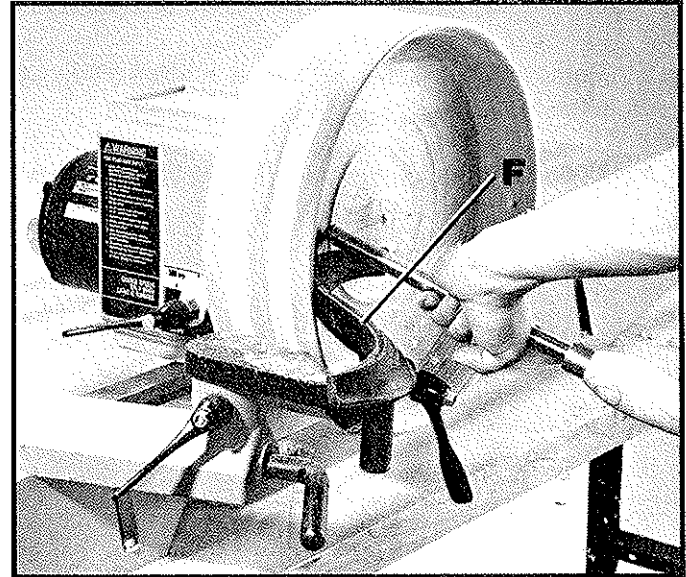

Fig. 85
5. As the inside turning operation becomes deeper it may be necessary to use the accessory 46-404 French Curl Tool Rest, shown at (F), to position the tool rest as close as possible to the workpiece as shown in Fig. 85.